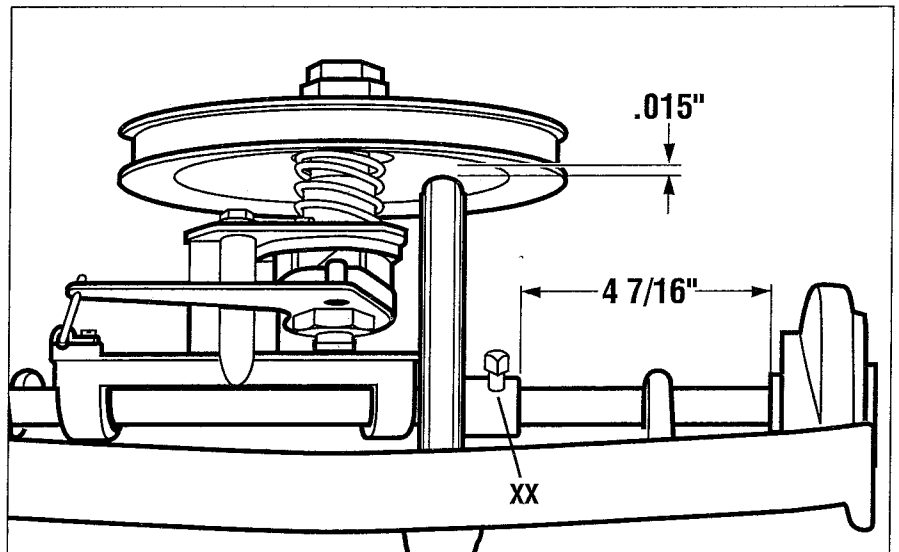

Fig. 12
2. Measure $4\frac{7}{16}$ " from the inside edge of the deck bushing (see Fig. 12) to the hub of the friction disc and tighten the $\frac{1}{4}$ " set screw (XX).